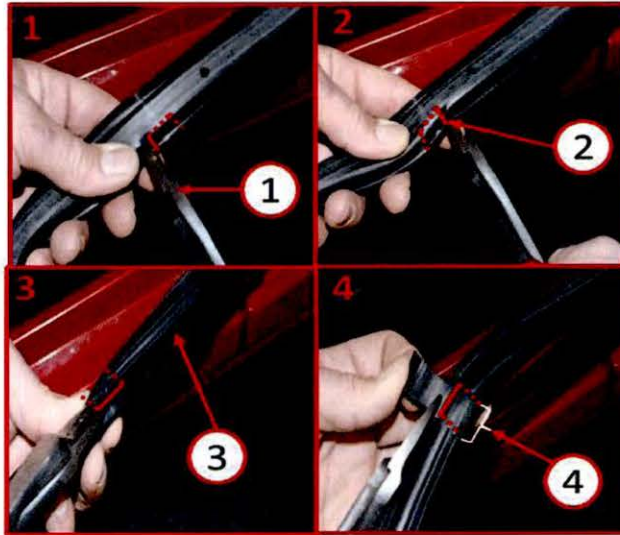

**Fig. 3 Seal Modification Desired Result**
**NOTE:** Be careful when notching the door seal so that the inside wall of the bulb seal (3) is not cut when the notch (1) is cut into the outer “wet side” (2) of the door seal. (Fig. 3) shows the desired result of the door seal notch procedure outlined in **Step #3** with relation to the structure of the seal and the layout of the notch on the seal relative to the door.